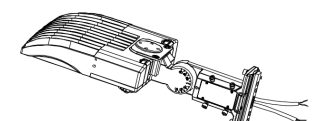

Fig. 8
2. Install the bracket on the fixture, tighten it (Fig. 8).